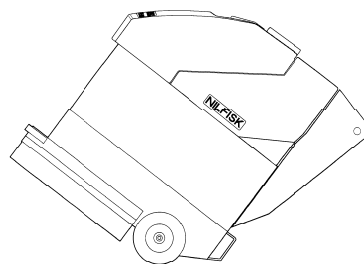

FIGURE 1
- 2 See Figure 1. Tip the machine back as shown and place a jack stand under the front end.